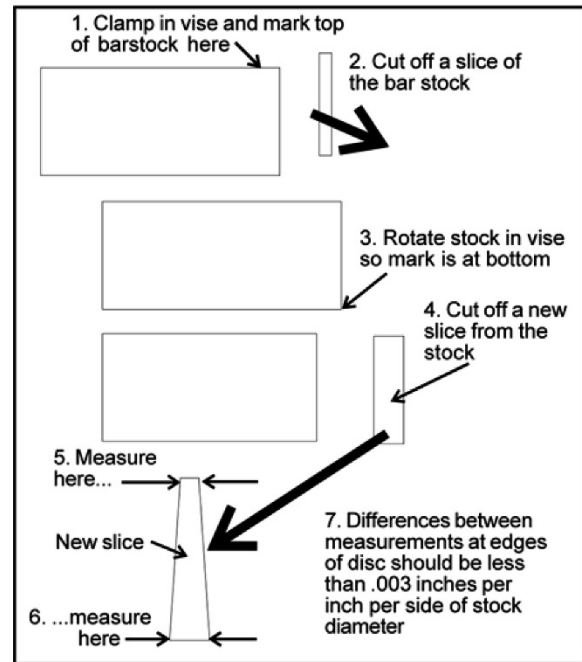

Figure 7-10
1. With bar stock securely clamped in vise, make a cut through the bar stock. (See Figure 7-10.)